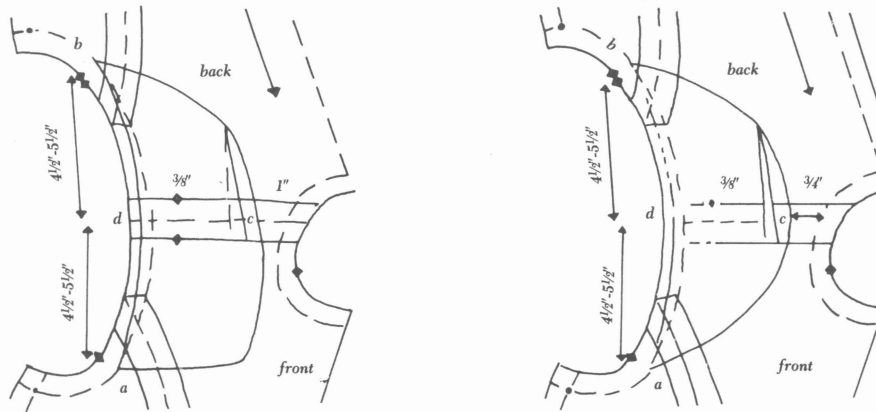

Figure 38. First layer of shoulder pad is the largest layer.
5. Cut out the paper guide you have just traced. This is the first and largest layer of your shoulder pad (Figure 38).